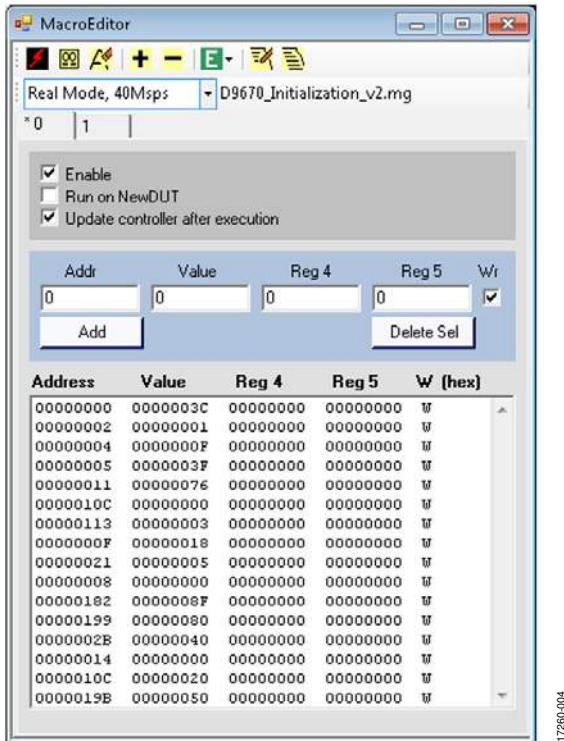

Figure 4. MacroEditor Window and D6970\_Initialization\_v2.mg Dropdown Box
6. In the main **SPIController** window, open the **File** menu and click **Open Macrogroup**. Select the **AD9670\_Initialization.mgp** macro file to open the **MacroEditor** window shown in Figure 4. The macro file is an .XML file that lists the serial peripheral interface (SPI) command macros in the **D6970\_Initializaion\_v2.mg** dropdown box (see Figure 4). Each command macro includes SPI writes that configure the **AD9670** for specific operating modes. The **MacroEditor** conducts a batch write of SPI registers to set up the **AD9670**. The macro file contains the following two macros: **Real Mode, 40Msps** and **IQ Mode, 40Msps**. It is possible to add unique configuration macros to the .XML macro file and load the macros into the **MacroEditor** window.
- To enable the demodulator and decimator, select and run the **IQ Mode, 40Msps** macro in the **MacroEditor** window (see Figure 4).